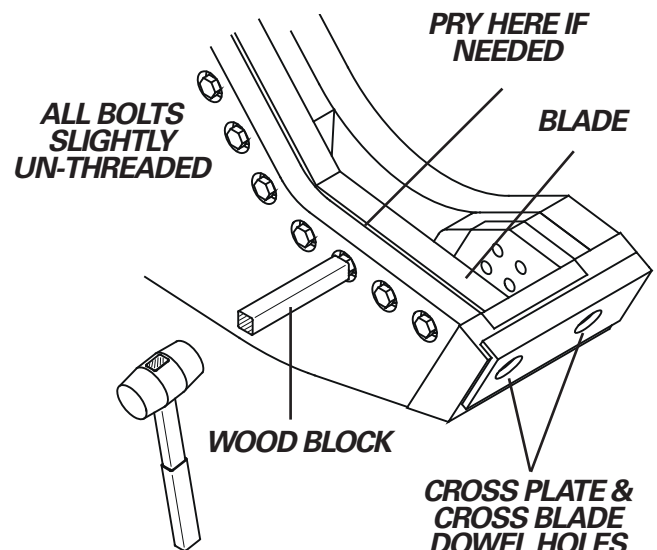

FIGURE 5-3
4. If the blade is still jammed in its seat, place a wood block or similar object against the head of one of the blade bolts and strike with mallet. The bolt being struck should be within $\frac{1}{2}$ " (13 mm) of being fully threaded into the blade to prevent thread damage (figure 5-3).